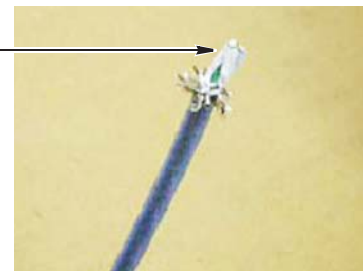

Figure 5
4. Using tweezers or similar tool, trim the exposed braid (shield) that is over the jacket. See Figure 5, Detail A. Fan out the braid as shown in Figure 5, Detail B.
5. Trim and remove the exposed binder tape. Refer to Figure 5, Detail C.